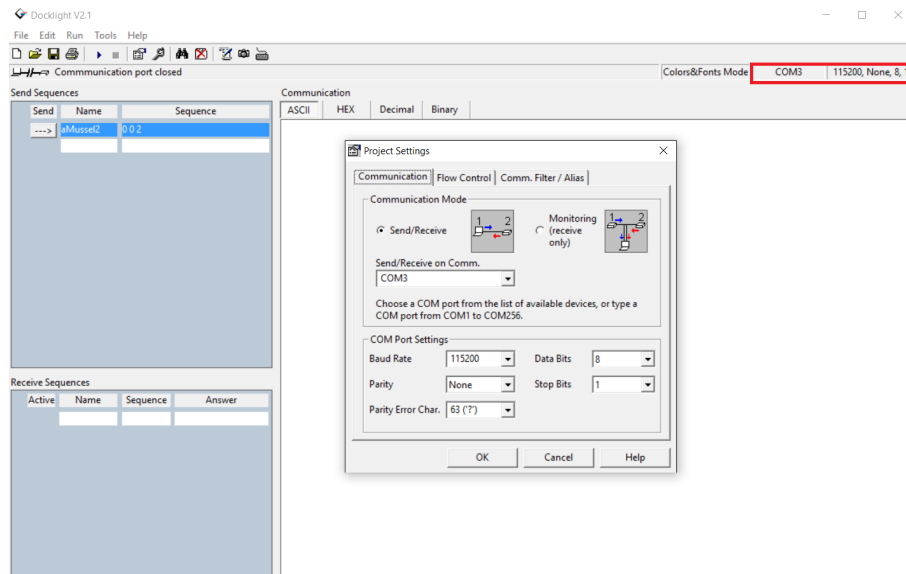

Figure 1.3: Selecting the COM port
3. Connect to the correct COM port. Port can be selected by double clicking on top right sections of status bar (indicated with red rectangle in Figure 1.3). After selecting the port, make sure the settings are matching the ones in the figure. Now you can simply press the play button to establish connection.